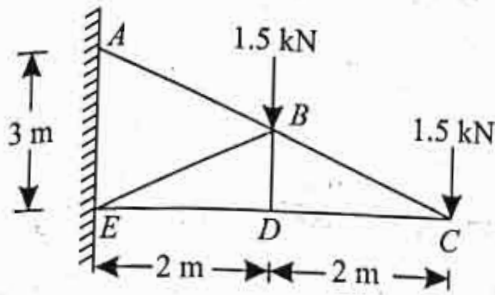

Fig. 11.38.
2. A cantilever truss of 4 m span is carrying two point loads of 1.5 kN each as shown in Fig. 11.38. Find the stresses in the members BC and BD of the truss.